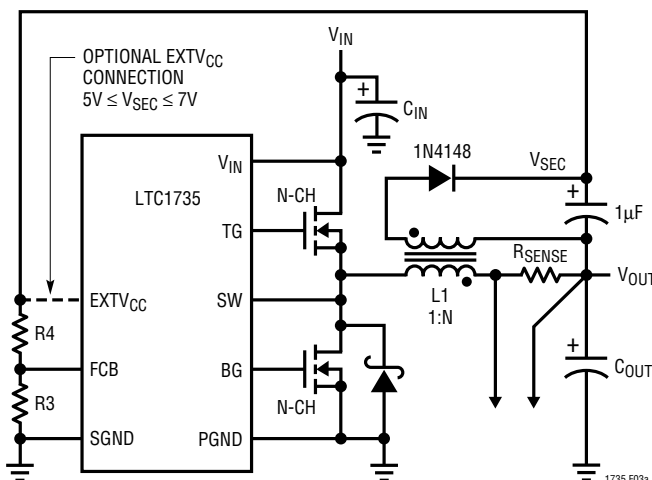
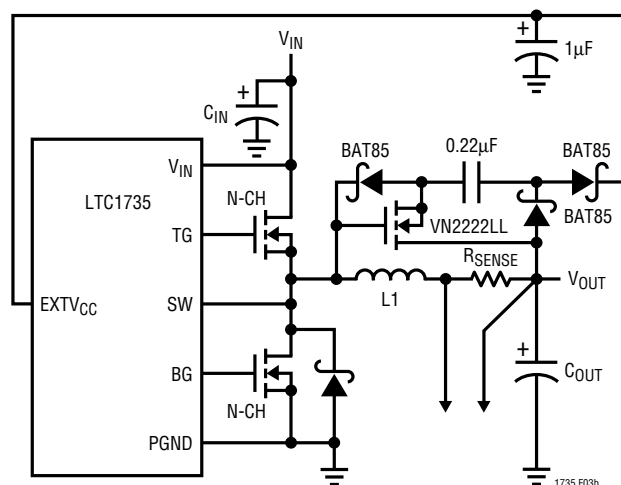

Figure 3a. Secondary Output Loop and EXTVCC Connection
Figure 3b. Capacitive Charge Pump for EXTVCC
3. EXTVCC connected to an output-derived boost network. For 3.3V and other low voltage regulators, efficiency gains can still be realized by connecting EXTVCC to an output-derived voltage that has been boosted to greater than 4.7V. This can be done with either the inductive boost winding as shown in Figure 3a or the capacitive charge pump shown in Figure 3b. The charge pump has the advantage of simple magnetics.
The secondary output voltage  $V_{SEC}$  is normally set as shown in Figure 3a by the turns ratio  $N$  of the transformer: